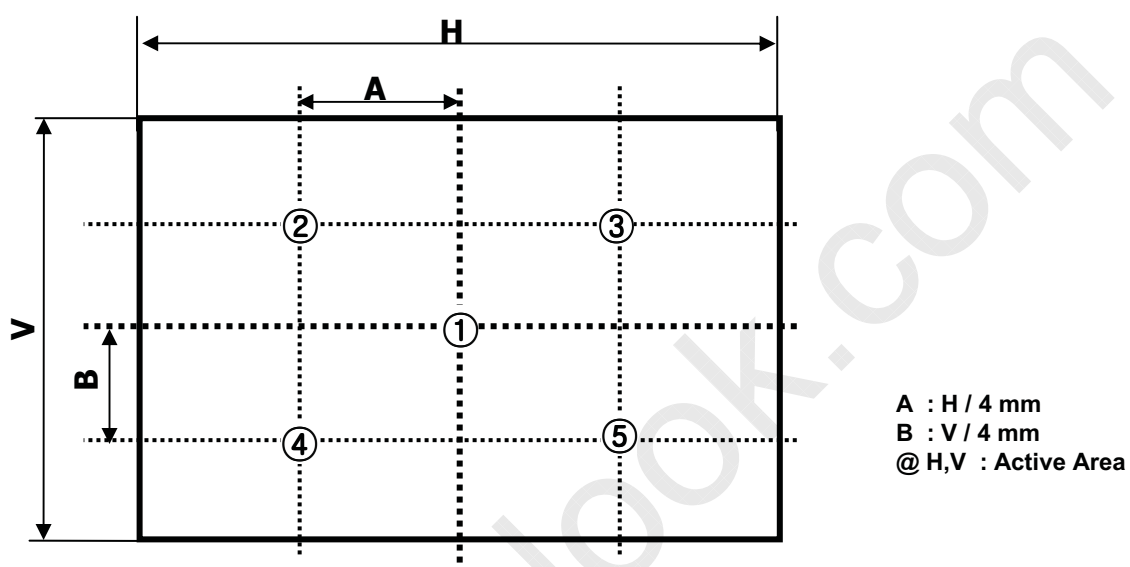

FIG. 2 5 Points for Luminance Measure
- Surface luminance are determined after the unit has been 'ON' and 1 Hour after lighting the backlight in a dark environment at  $25 \pm 2^\circ\text{C}$ . Surface luminance is the luminance value at center 1-point across the LCD surface 50cm from the surface with all pixels displaying white. For more information see the FIG. 2.
Where  $L_{on1}$  to  $L_{on5}$  are the luminance with all pixels displaying white at 5 locations . For more information, see the FIG. 2.